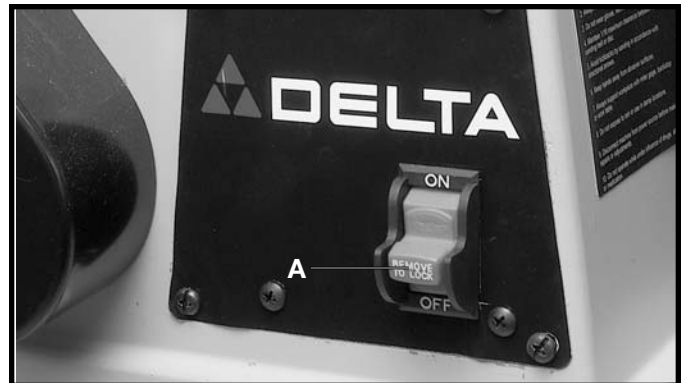

Fig. 19
The switch (A) Fig. 19, is located on the sander base. To turn the sander "ON" move the switch to the up position. To turn the sander "OFF" move the switch to the down position.